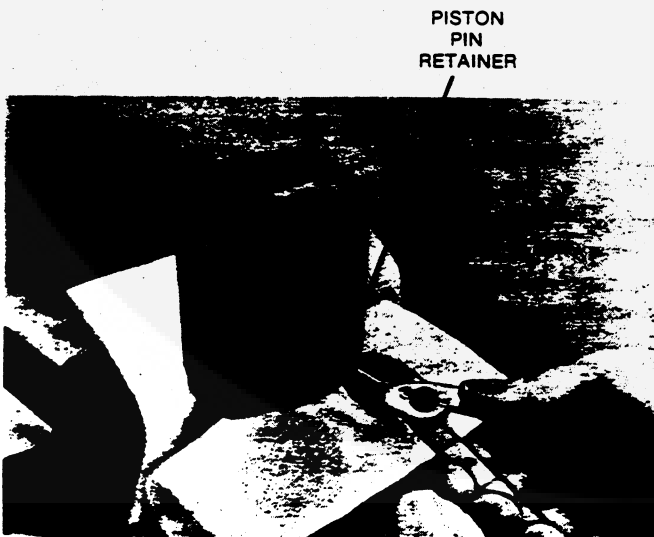

FIGURE 27. REMOVING PISTON PIN RETAINER
7. Using a pair of snap ring pliers, remove piston pin retainers and push piston pin out (Figure 27).